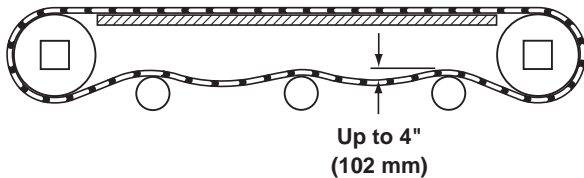

Figure 37
8. Check belt sag by measuring from the top of the return (Figure 37).